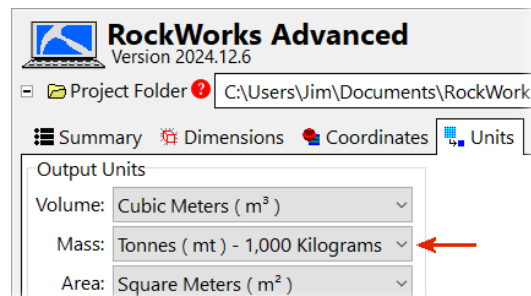

Figure 91
- Before proceeding with the excavation process, we need to adjust the Project Units. Specifically, this means clicking on the Units tab (Figure 91) at the top of the main RockWorks menu and changing the Mass units from Kilograms (the default) to Tonnes. Otherwise, the final reported masses will be expressed in ridiculously large numbers.